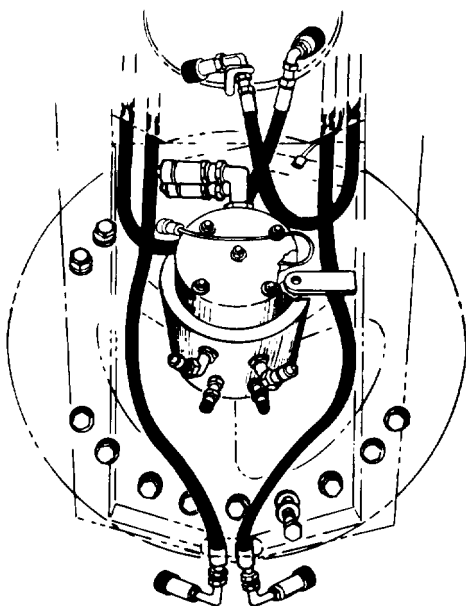

Figure 5-20 Location of Boom Hoist Cylinder Hoses After Disconnection
- e. Remove dust caps and plugs from tool box (three sizes, two of each). Plug or cap open hose ends and all open fittings on rotary manifold (Figure 5-20). Lock dipstick cap on hydraulic tank.